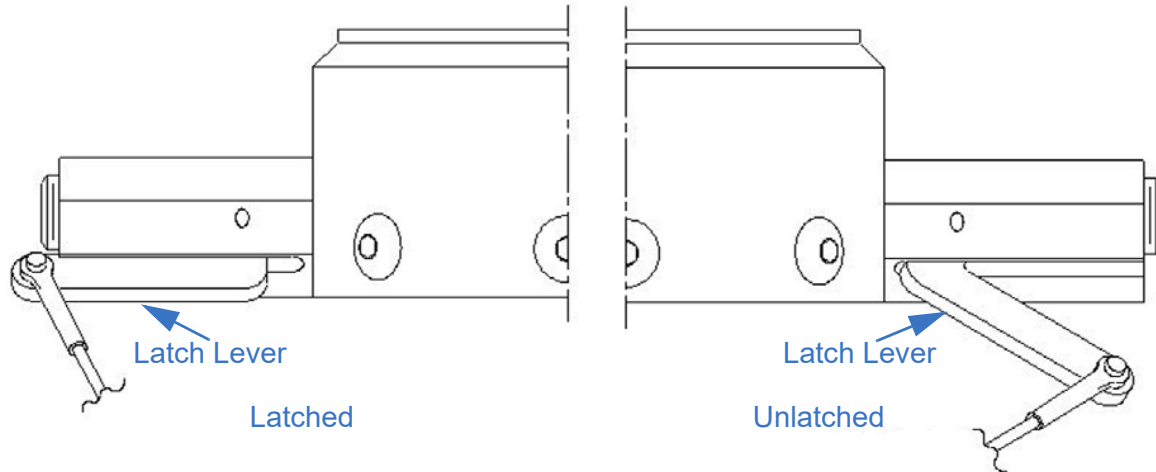

Figure 6-12 Latch Lever Positions
10. Pressurize the mast while continuing to hold down the trip line. While pressurizing the mast, you should feel the locks unlatch without needing to apply substantial pressure. Observe the latch levers (Figure 6-12) to confirm they have unlatched. When unlatched, they should both be pointing down at about a 45° angle from the collar ears. It is possible for the latch levers to be at a slight angle and still be latched.